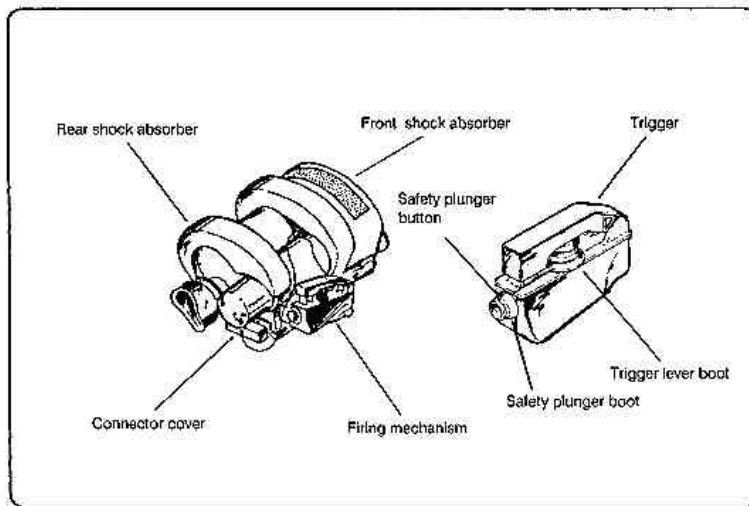

Figure 1-2. Day tracker parts.
(2) The day tracker is quickly attached to and removed from the round (Figure 1-2). The tracker has an aluminum housing assembly that contains an optical sight, infrared receiver assembly, and control signal comparator. On the right side of the housing is a firing mechanism. It consists of a trigger safety plunger and trigger level bar. The firing mechanism and safety plunger are protected by a moisture-seal rubber boot.